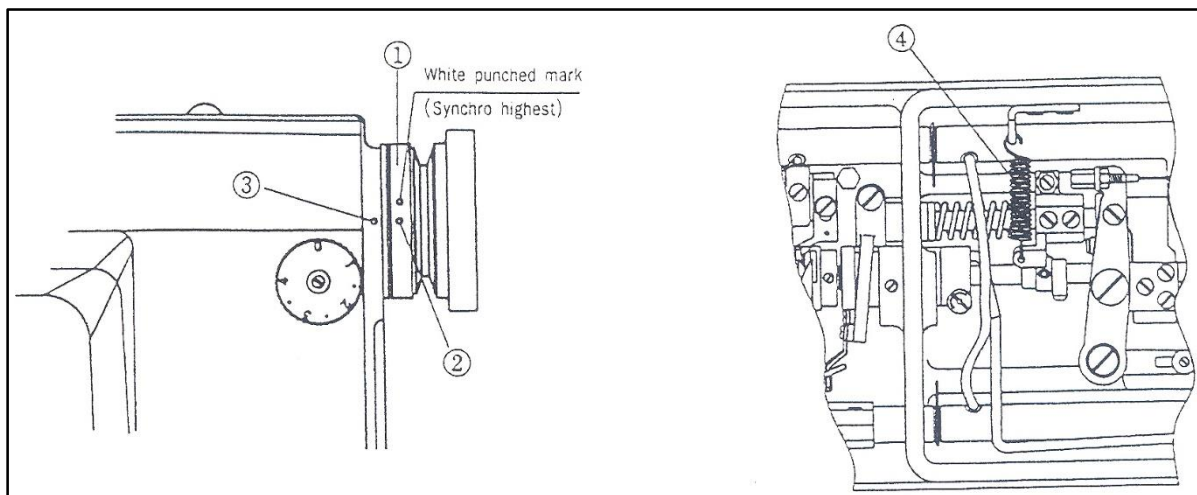

Figure 7.14
- A. Referring to Fig. 7.14 line up mark (2) on hand wheel with punch mark (3) on head.
- B. Remove spring (4) as shown in Fig. 7.14.